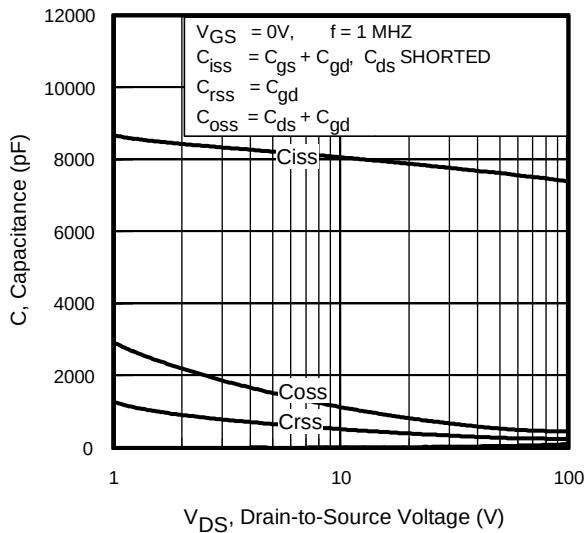

Fig 5. Typical Capacitance vs. Drain-to-Source Voltage
| $C_{oss \text{ eff. (TR)}}$ | Effective Output Capacitance (Time Related)⑥   | —    | 720.1 | —    |       | $V_{GS} = 0V, V_{DS} = 0V \text{ to } 80V$ ⑥, See Fig. 5 |